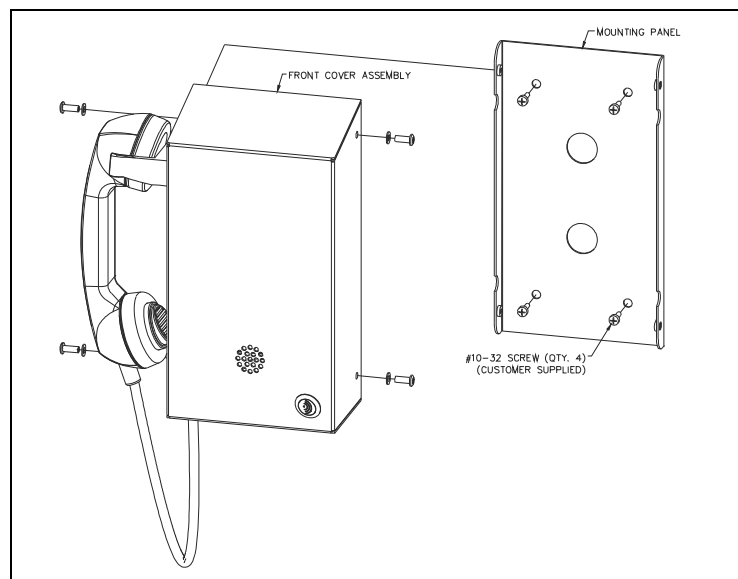

Figure 4. Models 210-702/-702BH/-702BHAC
1. Use a GAI-Tronics No. 233-001 Security Screwdriver to remove the four tamper-resistant cover-panel screws (see Figure 4).